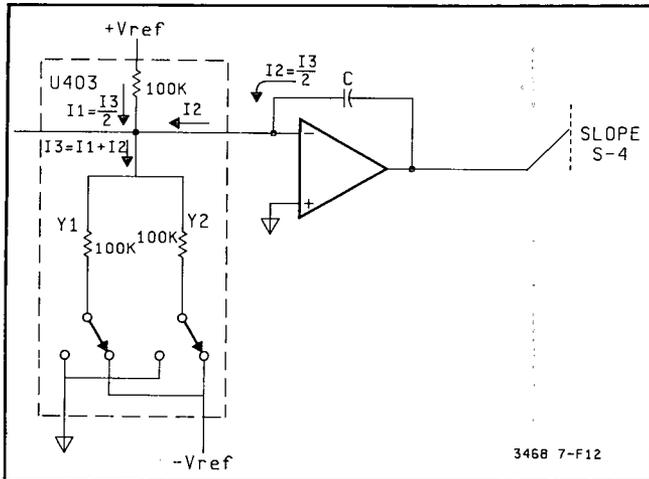

Figure 7-F-12. Slope S-4 Generation
**7-F-39. Slope S + 0 and S-0 Generation.** Refer to Figure 7-F-13. Note that one side of a 100K ohm resistor (Y1 path) is connected to ground and the other side is connected to the summing node. Since the 100K ohm resistor from  $+V_{ref}$  (Y3 path) and the 100K ohm resistor from  $-V_{ref}$  (Y2 path) are also connected to the summing node, no current flows from the integrator capacitor (C). This is because the resistance value of path Y2 and Y3 is the same and makes the current value of paths Y2 and Y3 the same (but opposite polarity). This is true for both slopes S + 0 and S-0. The only difference is that paths Y1 and Y2 are switched when the slopes are switched (Y1 to ground and Y2 to  $-V_{ref}$ , or Y2 to ground and Y1 to  $-V_{ref}$ ).